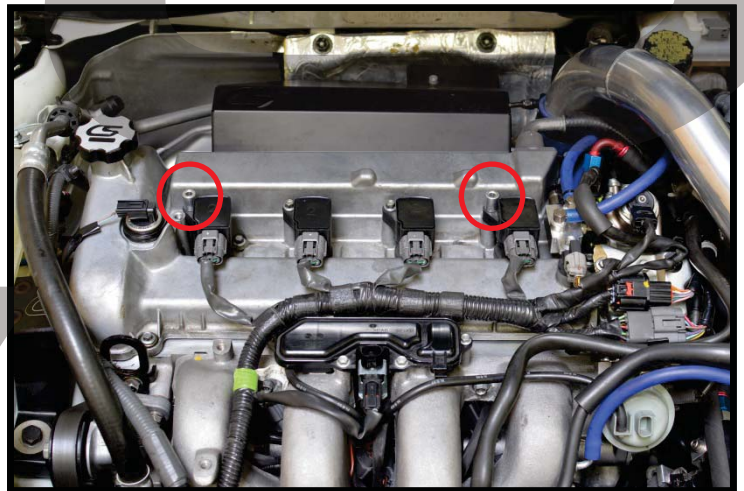

Figure 2a
- b) Align the spacers so that provided bolts will thread into the coil pack holes. The installed spacers are shown with the red circles in Figure 2a.